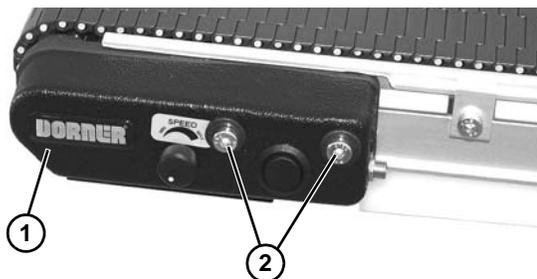

Figure 78
- Install inframe drive side cover (Figure 78, item 1) with two head plate fastening screws (Figure 78, item 2).